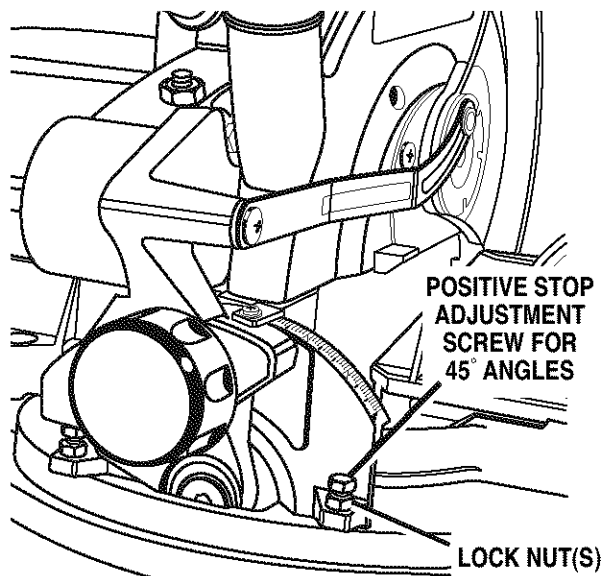

Fig. 24
- Using a 10 mm wrench or adjustable wrench, loosen the lock nut securing positive stop adjustment screw. Also loosen bevel lock knob. See Figures 24 and 25.